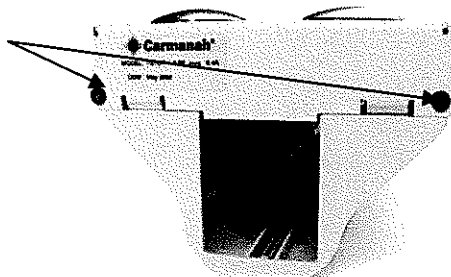

Figure 21: Front Panel Assembly with Button Plate
2. Remove the bottom plate by removing two security fasteners as shown in Figure 21.